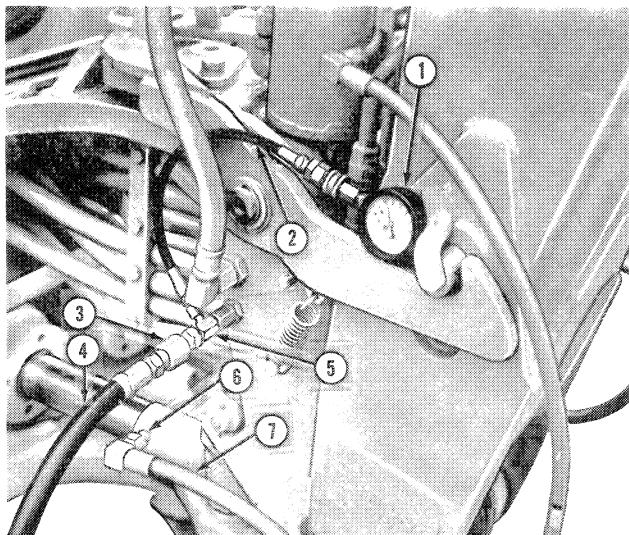

Figure 21
Refer to Figure 21. Warm the hydraulic oil to 165° F. (73.8° C.) by operating the backhoe for approximately 15 minutes before installing the test fittings.
3. Disconnect the extendible dipstick cylinder piston hose (7), Figure 21, from the right side of the swing post and cap as shown.
4. Connect the N1100-W fitting (5) to the port on the swing post. Connect the CR11 fitting (3) to the N1100-HS hose (4) then connect the CR11 fitting to the N1100-W fitting as shown.
5. Install a 5000 psi (344.7 bar) gauge (1), Tool No. D-22, and hose assembly (2), Tool No. D-19-HP to the fitting. Securely tighten all fittings.